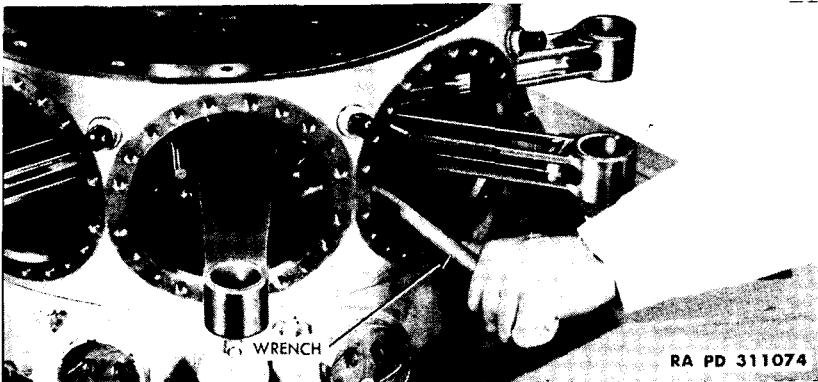
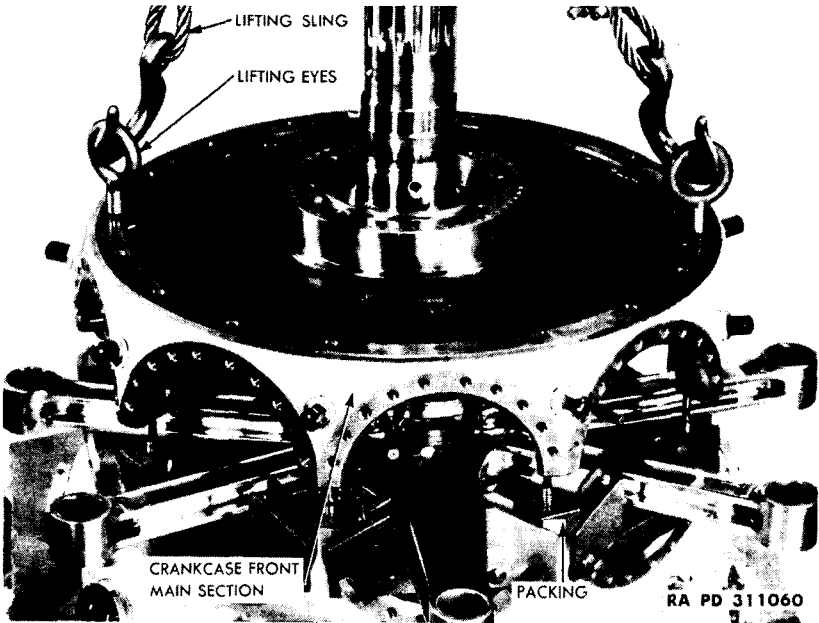

Figure 18 — Removing Crankcase Main Section Nuts, Using Wrench 5A2306
Figure 19 — Removing Crankcase Main Front Section, Using Sling 5A2228 and Eyes 5A2318
n. Remove Crankcase Main Front Section. Remove cotter pins and nuts which hold two crankcase sections together, using wrench (5A2306) (fig. 18). Lift crankcase main front section over crankshaft (fig. 19).